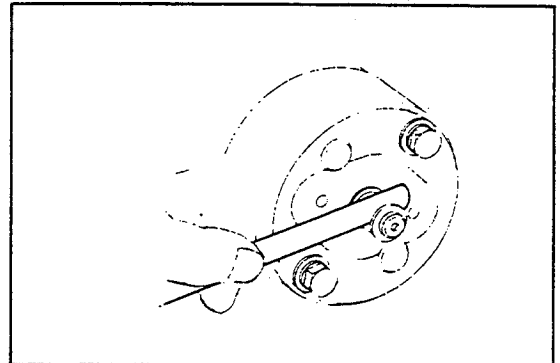

Fig. 10-42
- (1) Connect the battery to the magnetic switch as shown in Fig. 10-42.